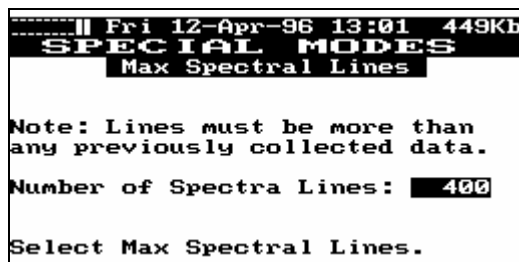

Figure 12
**SM4 Max Spectral Lines.** After pressing the **[ENTER]** key, the screen will display the “SPECIAL MODES Max Spectral Lines” banner. (See Figure 12). The number of lines is selected by pressing the **[LEFT ARROW]** or **[RIGHT ARROW]** keys. The available number of lines of resolution to choose from are: 400, 800, 1600, 3200, 6400 and 12800. Press **[ENTER]** to accept the selection. In the lower area of the screen an information note is displayed which says “*Note: Lines must be more than any previously collected data.*” This means that the number of lines you are about to select may not be lower than the highest resolution spectra stored since memory was last cleared. The lower range of selection will automatically be limited by the highest number of lines previously selected and stored to a spectra. Before an initialized analyzer is used to collect spectra, the selection range will be 400 to 12, 800 lines. If a 1600 line spectra, for instance, is subsequently collected and stored, any number of lines lower than 1600 will be disallowed. To reset the analyzer and accept a lower number of lines, you must use the “Erase All Memory” function of the Data Management section in Special Modes. Refer to paragraph **SM16** in this section.